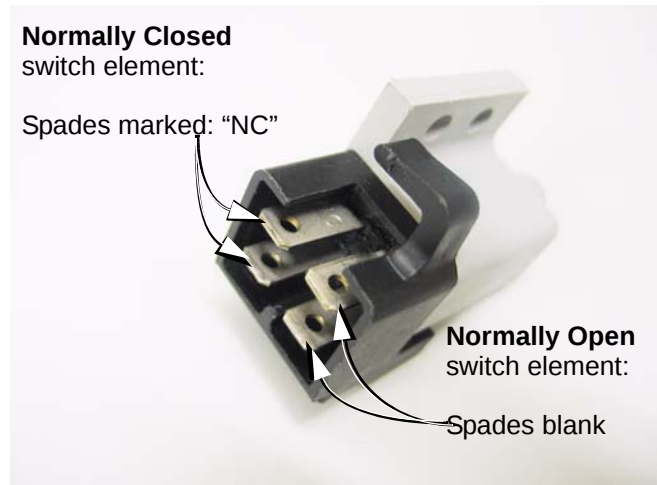

Figure 7.52
- The male spade terminals that are associated with each other face each other broad-surface to broad surface. See Figure 7.52.